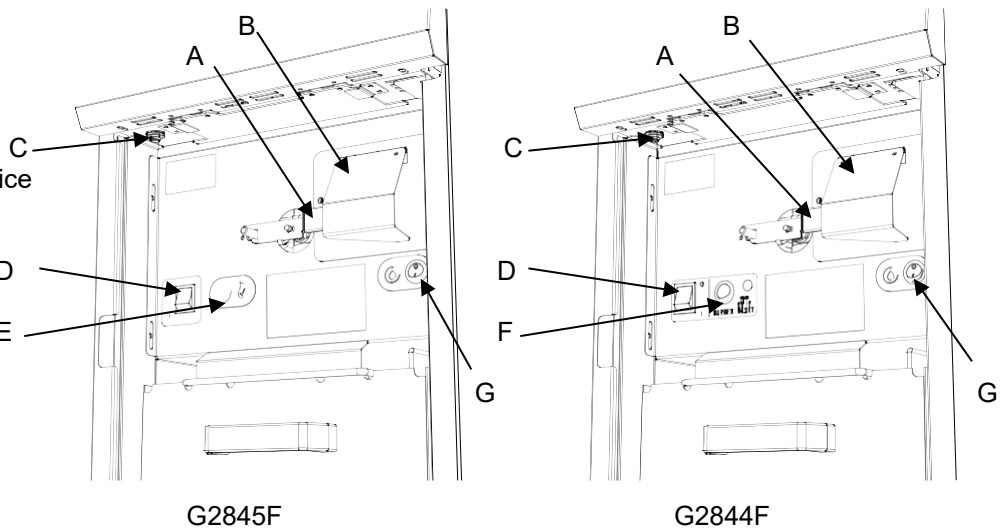

Figure 4 – G2844 & G2845 - Additional Controls
(See Figure 4.)
- 10) Press lockout reset switch. See *Figure 4* (*Lock out indicator will extinguish*).
In the case of operating thermostat failure, allowing oil temperature to rise above predetermined legislation safe zone (*230°C*), limit device will activate and stop the flow of gas to burner. The Fan will still operate to help cool fryer. To re-set temperature Safety limit thermostat, refer to *Figure 4*.